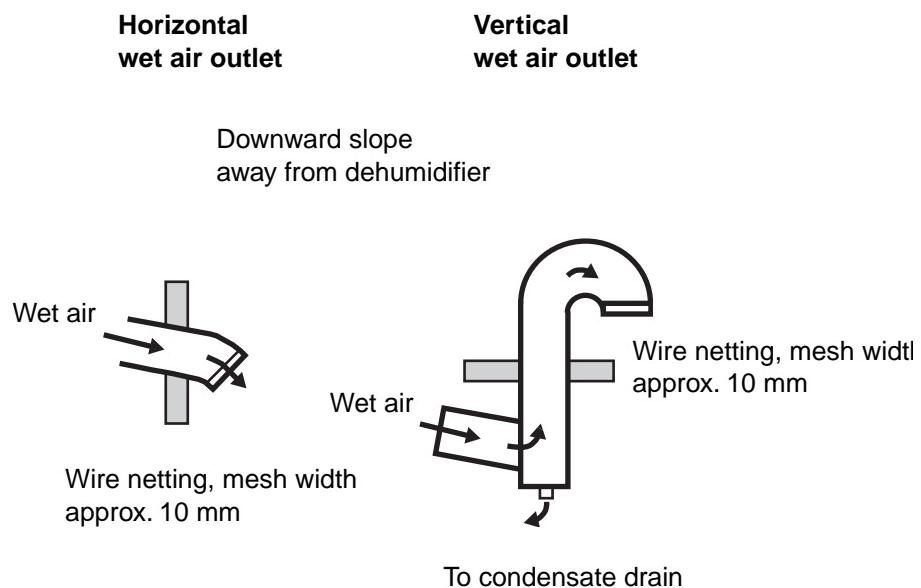

Figure 2.2 Wet air outlet design
- Horizontal duct-runs should be installed sloping downwards (away from the dehumidifier) to allow for condensate drainage. On the wet air outlet ducting, suitable condensate drains should be installed at low points in the ductwork. See figure 2.2, *Wet air outlet design*.
should be drilled at the lowest points in the ducting to prevent water accumulating in the duct, see figure 2.2, *Wet air outlet design*.